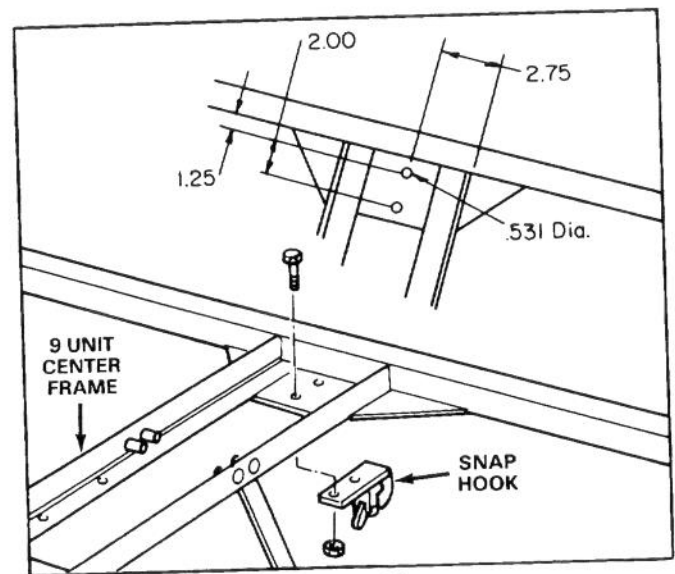

Figure 10
4. Install kit parts to 9 Unit center frame by securing snap hooks to underside of mounting plates with (2) capscrews and locknuts (Fig. 10).